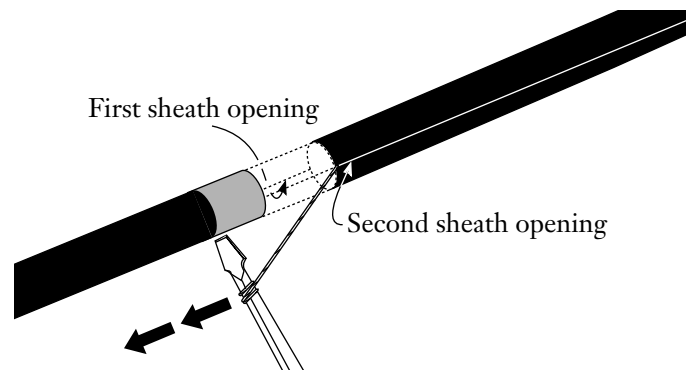

Figure 6
4.6 Using the shaft of a screwdriver as a handle, pull one rip cord at a time through the sheath to the wrap of tape (Figure 6). *Be sure to pull the rip cord through the sheath on the same side of the steel rod as the cord is located.*